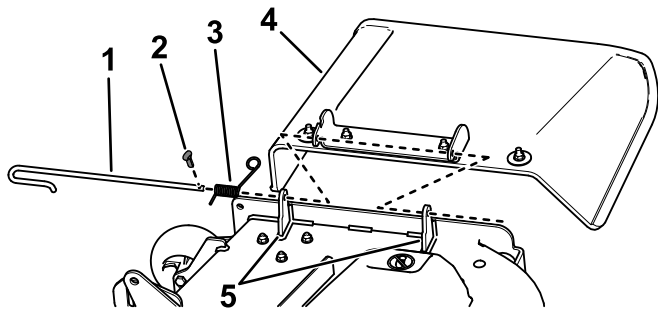

Figure 5
2. Disengage the spring from the notch in the deflector bracket and remove the cotter pin (CE models only), slide the rod out of the welded deck brackets, spring, and discharge deflector (Figure 5).
3. Remove the deflector (Figure 5).